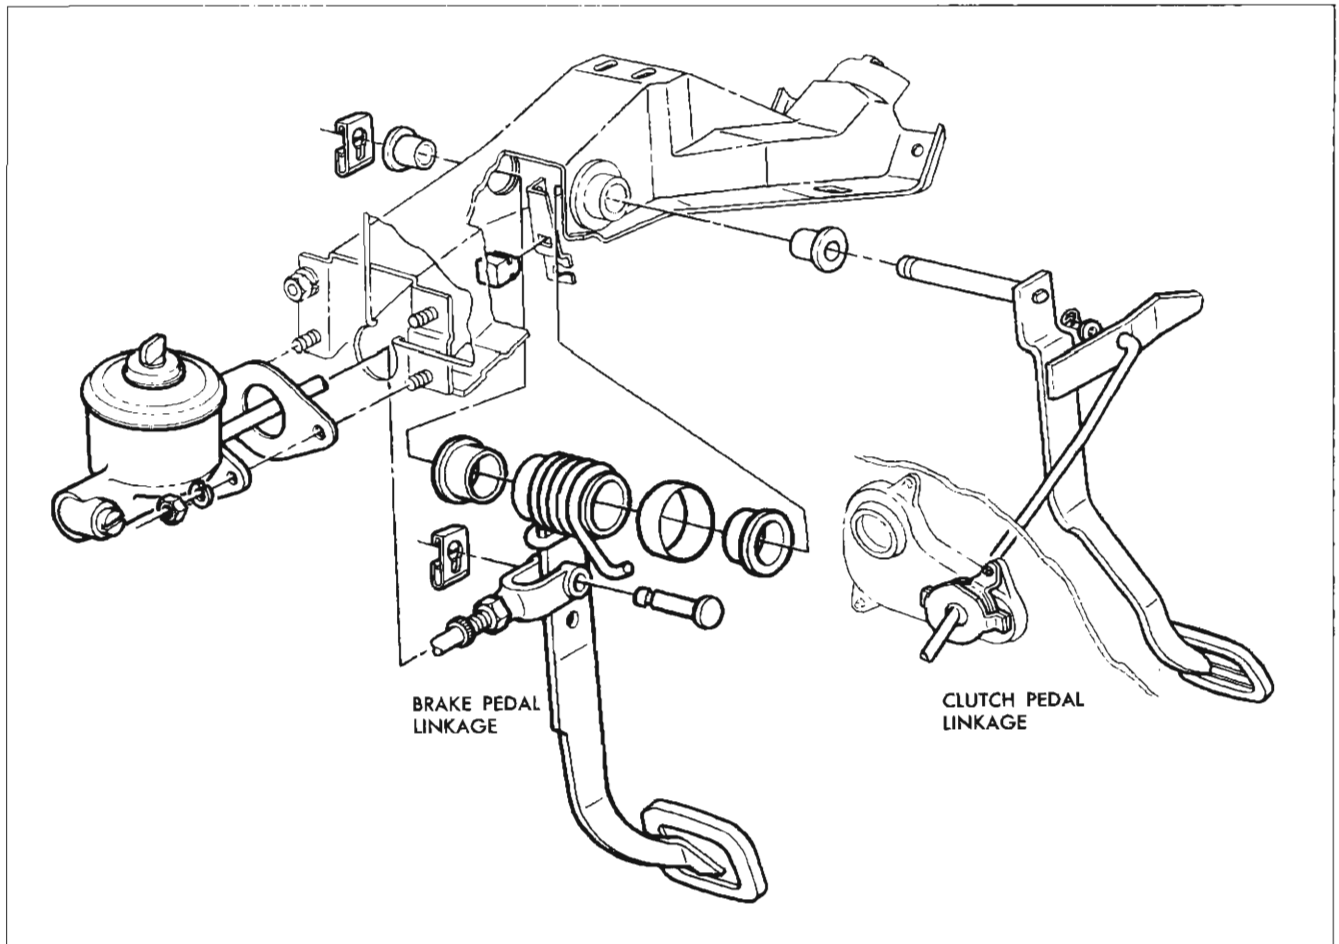

Fig. 15—Clutch and Brake Pedal Installation
2. Remove retainer and pull pin from brake pedal arm (fig. 15).